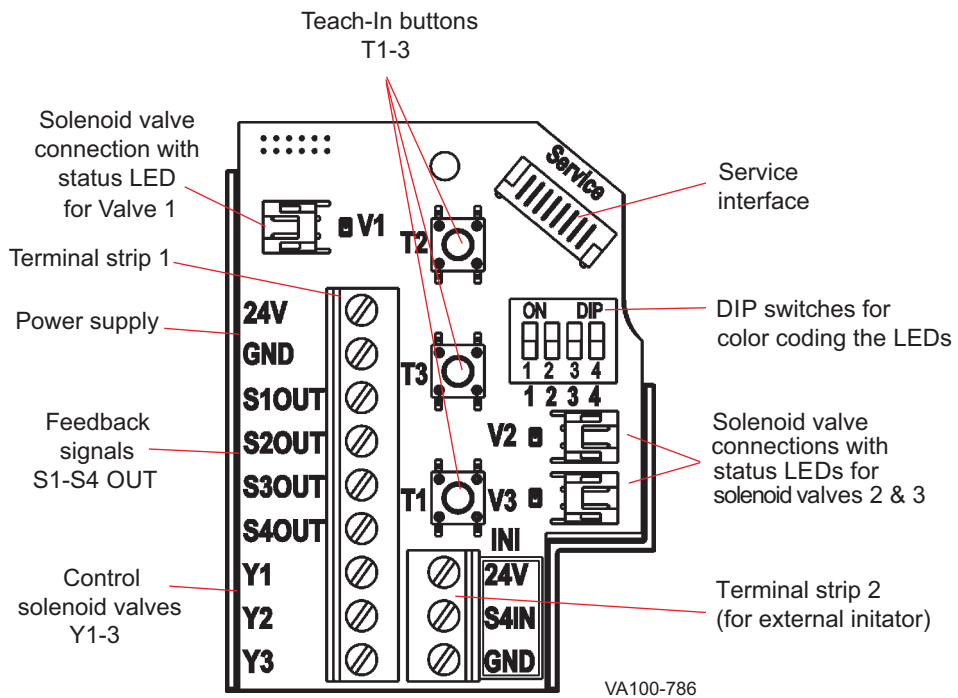

Figure 37 - 24 V DC Electronics Module Terminal Strip Configuration
4. Secure the wires to the terminal strips according to the pin assignments depicted in Figure 37 on page 33.
An external initiator can be connected using the small 3-pin terminal strip 2 (see Figure 37 on page 33).